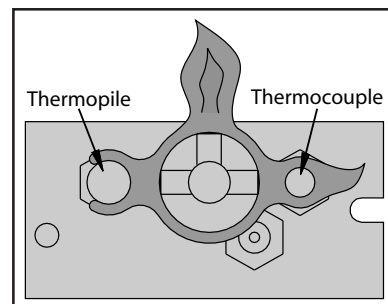

Figure 3. Pilot Flame
3. Release the control knob and check that the pilot has fully engulfed the thermocouple assembly (see Figure 3).